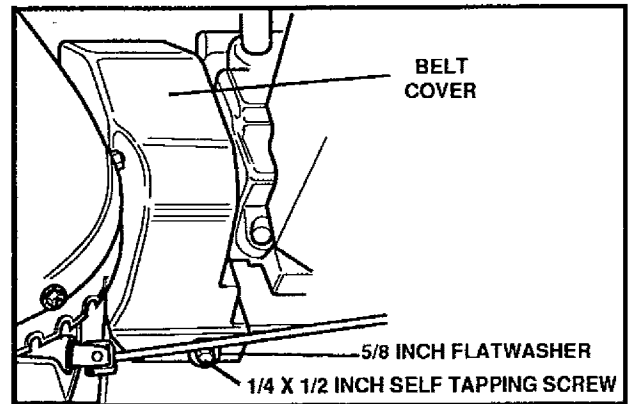

FIG. 4
- Remove the belt cover (See FIG. 4).
- Remove the belt cover by removing the screw and flatwasher on the left and right hand sides (See FIG. 4).